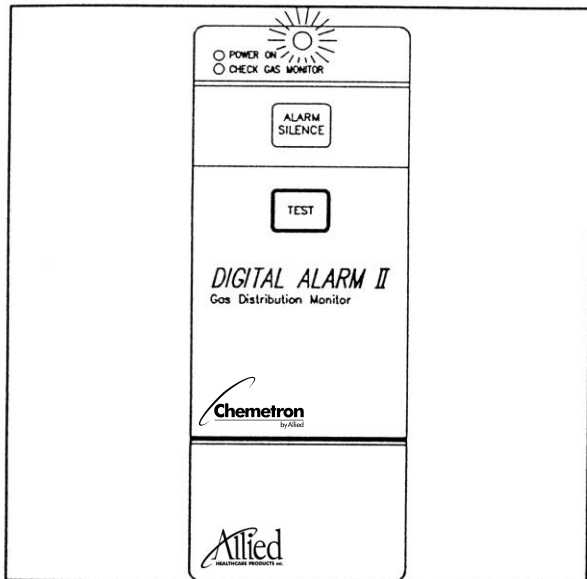

Figure 2 – Control Module
- 2.1.4 The alarm silence button (see Figure 2) silences the audio alarm during normal operation. Refer to Set-up Section for details of its other functions.
- 2.1.5 The Test Button (see Figure 2) puts the alarm in the test mode during normal operation. Refer to the Set-up sections for details of its other functions.
- 2.2.2 **Alarm State** - When an alarm condition occurs, the LED will turn red, and the audio alarm will be activated. Actual pressure/vacuum levels can be observed on the digital display at all times. The visual indicator will remain red until the alarm condition is cleared. The audio indication will remain active for the duration of the alarm condition unless silenced by the alarm silence button (see Figure 2) on the Control Module.